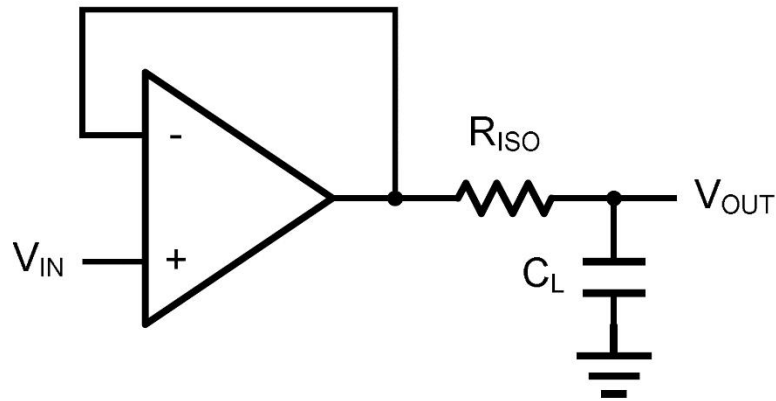
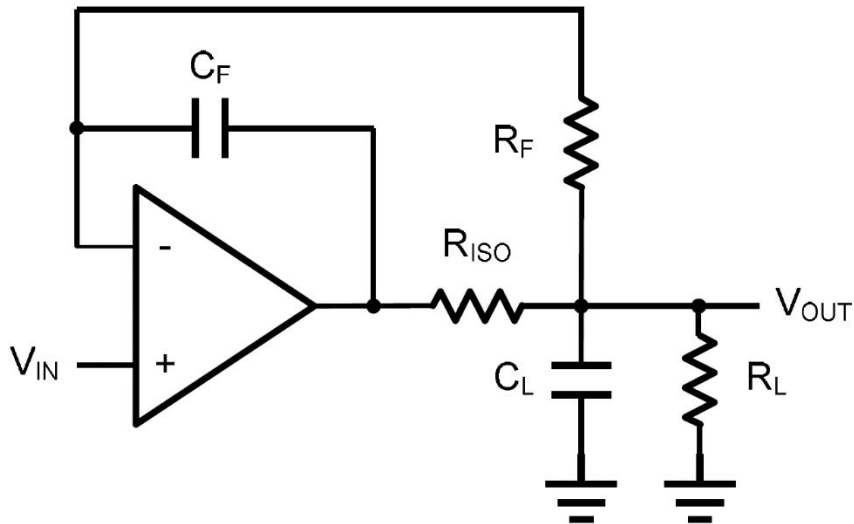

Figure 2. Indirectly Driving a Capacitive Load Using Isolation Resistor
Figure 3. Indirectly Driving a Capacitive Load with DC Accuracy
The CBMLM358 family is optimized for bandwidth and speed, not for driving capacitive loads. Output capacitance will create a pole in the amplifier's feedback path, leading to excessive peaking and potential oscillation. If dealing with load capacitance is a requirement of the application, the two strategies to consider are (1) using a small resistor in series with the amplifier's output and the load capacitance and (2) reducing the bandwidth of the amplifier's feedback loop by increasing the overall noise gain. Figure 2. shows a unity gain follower using the series resistor strategy. The resistor isolates the output from the capacitance and, more importantly, creates a zero in the feedback path that compensates for the pole created by the output capacitance.
The circuit in Figure 3 is an improvement to the one in Figure 2. R_F provides the DC accuracy by feed-forward the V_{IN} to R_L . C_F and R_{ISO} serve to counteract the loss of phase margin by feeding the high frequency component of the output signal back to the amplifier's inverting input, thereby preserving the phase margin in the overall feedback loop. Capacitive drive can be increased by increasing the value of C_F . This in turn will slow down the pulse response.